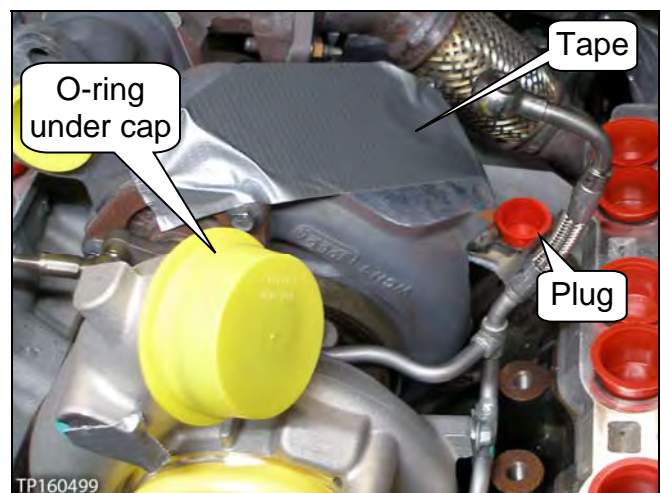

Figure 59
3. Remove the cap, tape, and plug shown in Figure 59.
4. Replace the low pressure turbocharger's O-ring with a new one (see Figure 59).